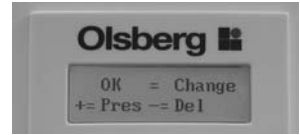
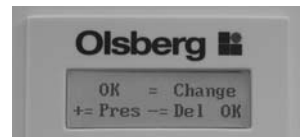

Fig.23
Fig.26
Here, too, you have three selection options (Fig. 23):
- By pressing – you can restore the charge reduced menu's factory setting. This means that both user-defined reductions and preselection programmes will be deleted. Once you have defined the reductions (using 'OK' or +, Fig. 23) and wish to reverse them, you can use – to access reduction deletion, and then use 'OK' (Fig. 26) to restore the factory setting for the charge reduced programme menu item.